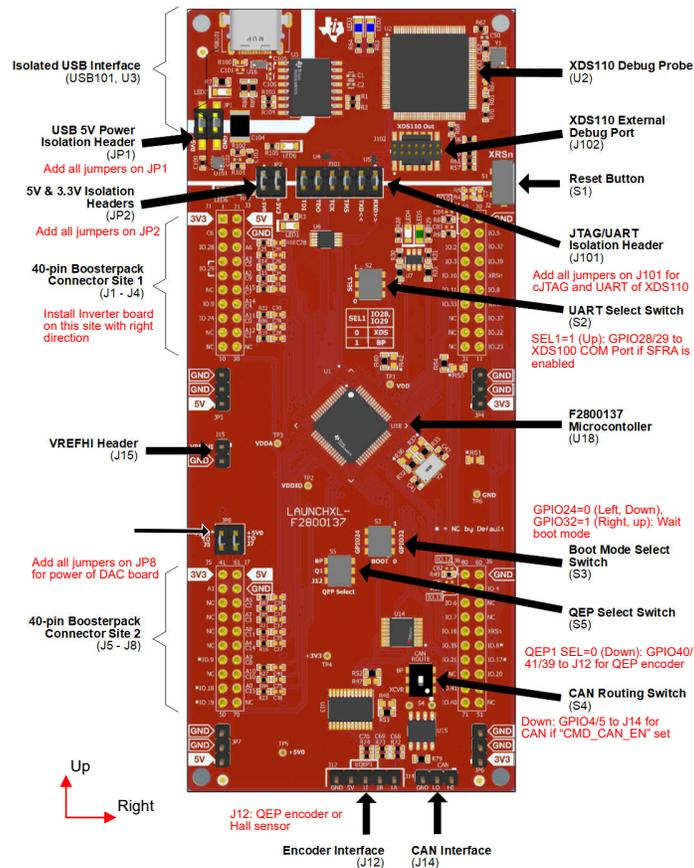

Figure 3-3. F2800137 LaunchPad Board Overview and Switches Setting
- Make sure that the switches on the **LAUNCHXL-F2800137** are set as described below shown in **Figure 3-3**.
- For **S2**, position the SEL1 switch **UP** (1) to route GPIO28 and GPIO29 to the BoosterPack connector. There is only SFRA support on the **LAUNCHXL-F2800137** with the **BOOSTXL-3PHGANINV** via the virtual COM port of the XDS110 debugger by setting SEL1 to **DOWN** (0). The other kits need the GPIO29 to enable the DRV device. This is due to the pin constraints on the **LAUNCHXL-F2800137**.